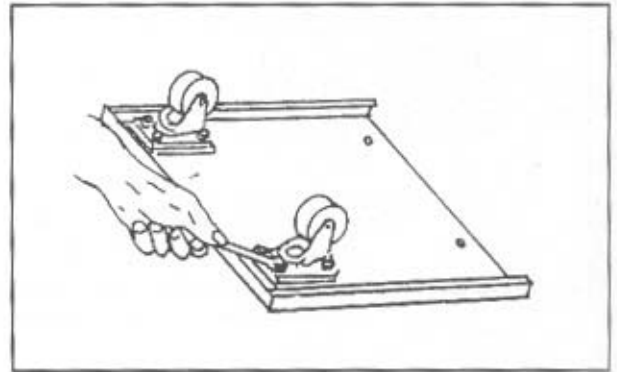

Figure 2
2. Place the right and left side base upside down and locate the casters at the attaching holes provided. Mounting the caster to the right and left side base using sixteen 5/16"x1/2" hex. bolts. Showing as **Figure 2**.